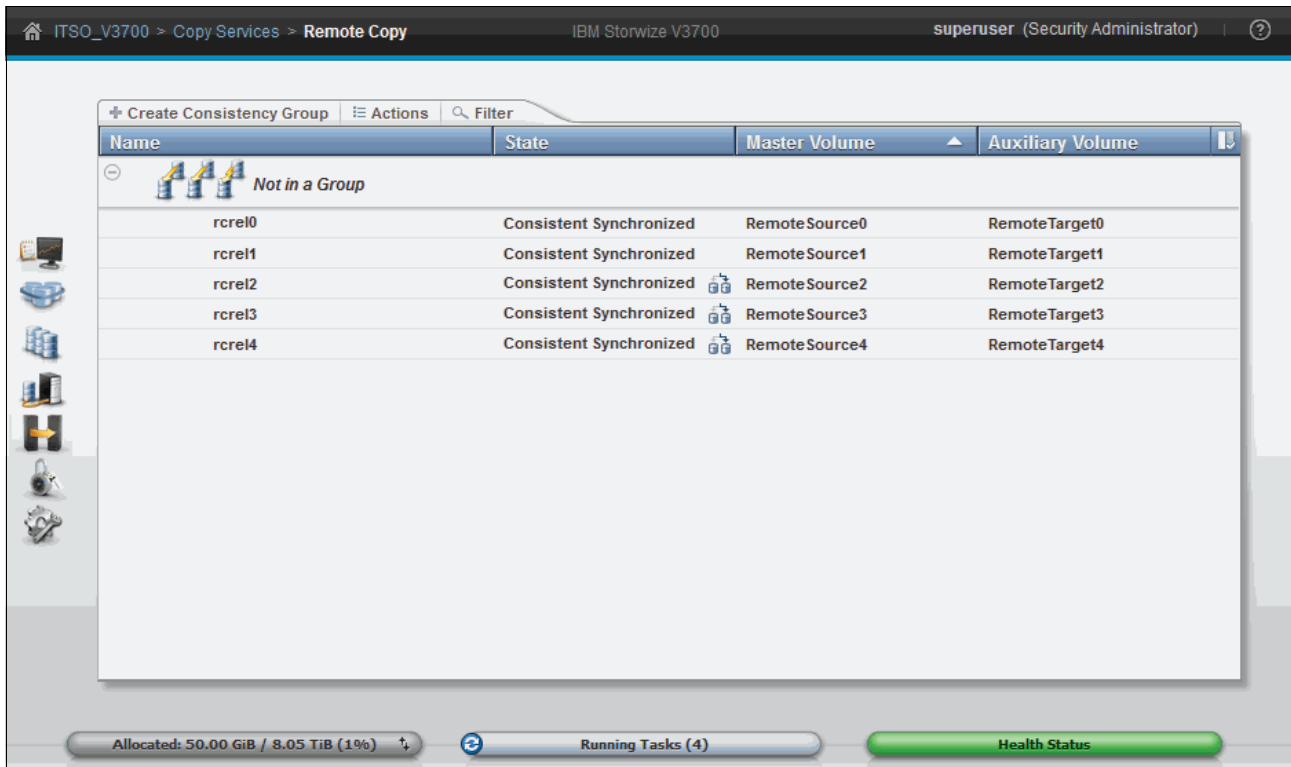

Figure 10-147 Remote Copy relationships returned to Not in a Group
- The consistency group is deleted. Any relationships that were part of it are returned to the Not in a Group list, as shown in Figure 10-147.